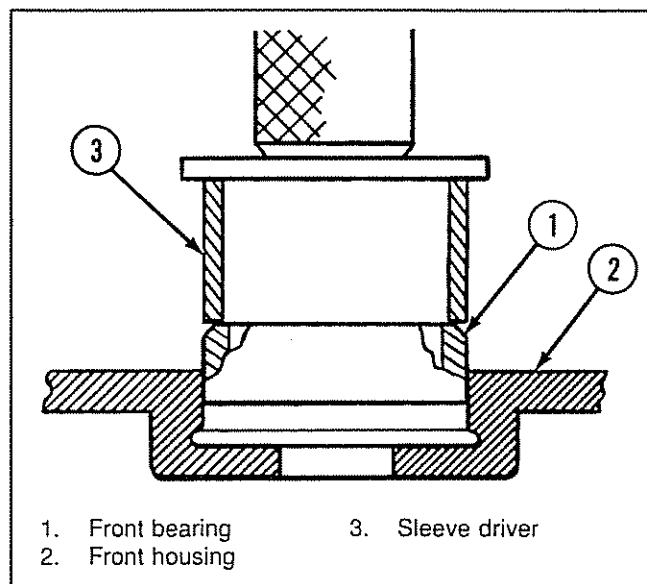
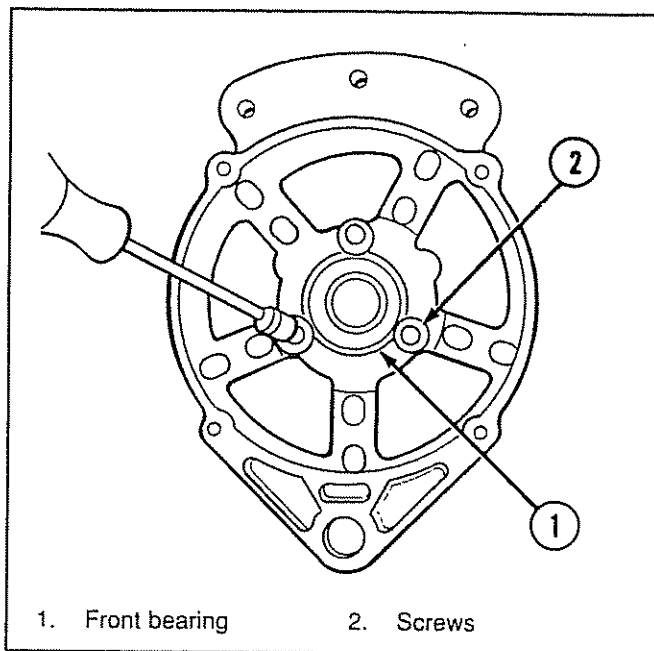

Figure 6-84. *Pressing Front Bearing Into Front Housing*
Figure 6-85. Tightening Alternator Front-Housing Screws
4. Carefully press the front bearing into the front housing, pushing against the bearing outer race with a sleeve driver (See Figure 6-84). Lock the bearing in place with screws (Figure 6-85). Torque screws to 25-35 lb-in (2.8-4.0 N•m).